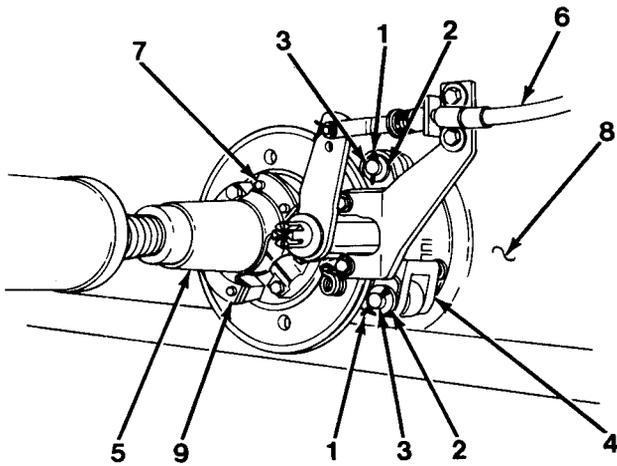

Figure 12-1
5. Position parking brake assembly (4) on axle (8) and install two pins (3), washers (2) and new cotter pins (1, Figure 12-1).